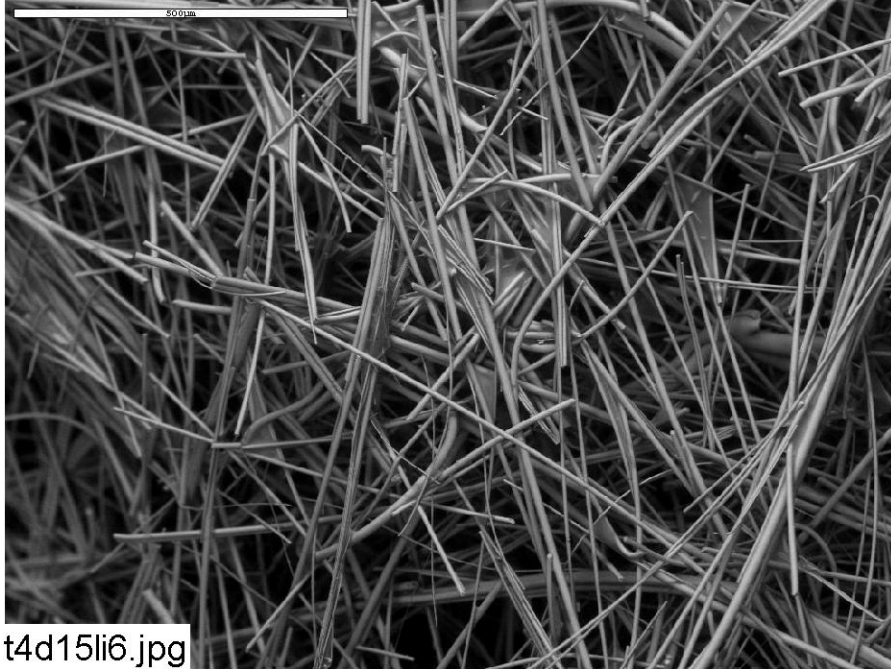

Figure B1-5. Environmental SEM image magnified 100 times for a Test #4, Day-15 interior low-flow fiberglass sample. (t4d15li6.jpg)
- Figure B1-5. Environmental SEM image magnified 100 times for a Test #4, Day-15 interior low-flow fiberglass sample. (t4d15li6.jpg) B1-6
| Image: | t4d15li6 | 100 × | ESEM image of fiberglass | Figure B1-5 |